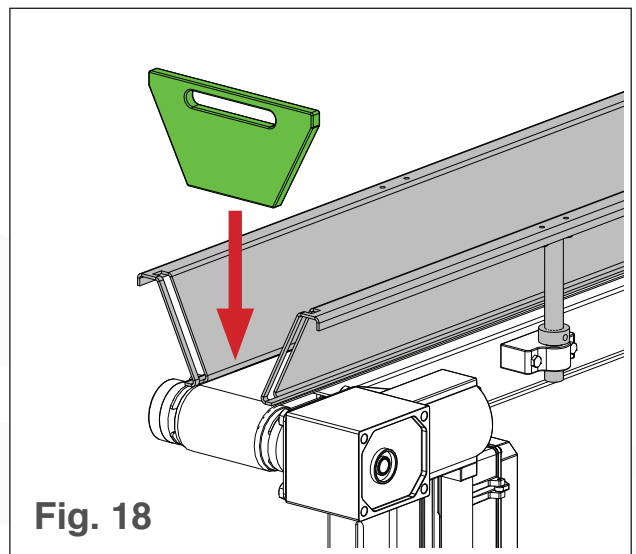

Fig. 18
1. Slot the end plate into the notches on the sidewalls (see Fig. 18).